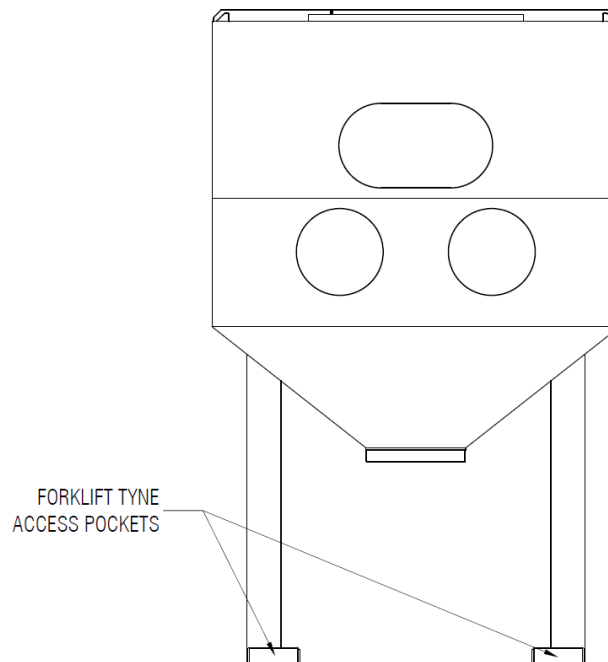

Figure 4
- 3.3 The blast cabinet should only be moved and positioned using a suitably sized forklift utilising the two (2) forklift tyne access pockets located on the base of the cabinet legs. See figure 4.